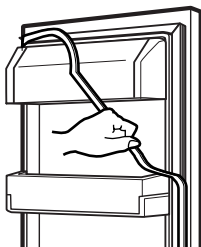

Figure 3
▶ Right Door -FIG. 3
1. Open door. Loosen top hinge cover screw (1). Lift up cover (3).
2. Disconnect door switch wire harness (2). Remove cover.
3. Disconnect wire harness (5).
4. Rotate hinge lever (6) clockwise and remove. Lift top hinge (7) free of hinge lever latch (8).